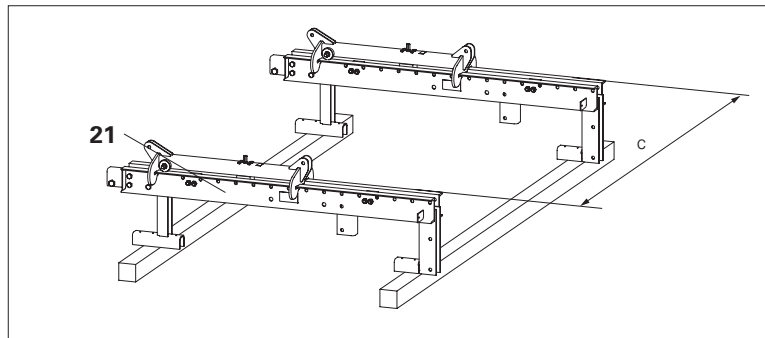

Fig. C2.01
1. Measure and align the crossbeam unit (**21**) on squared timbers. (Fig. C2.01)